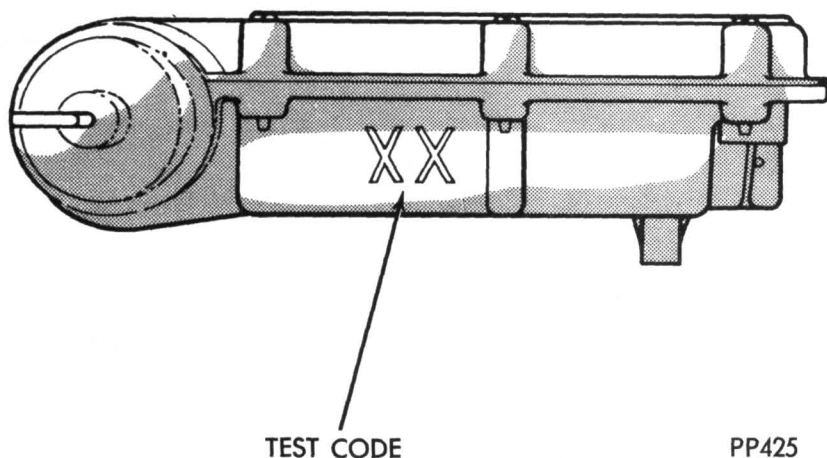
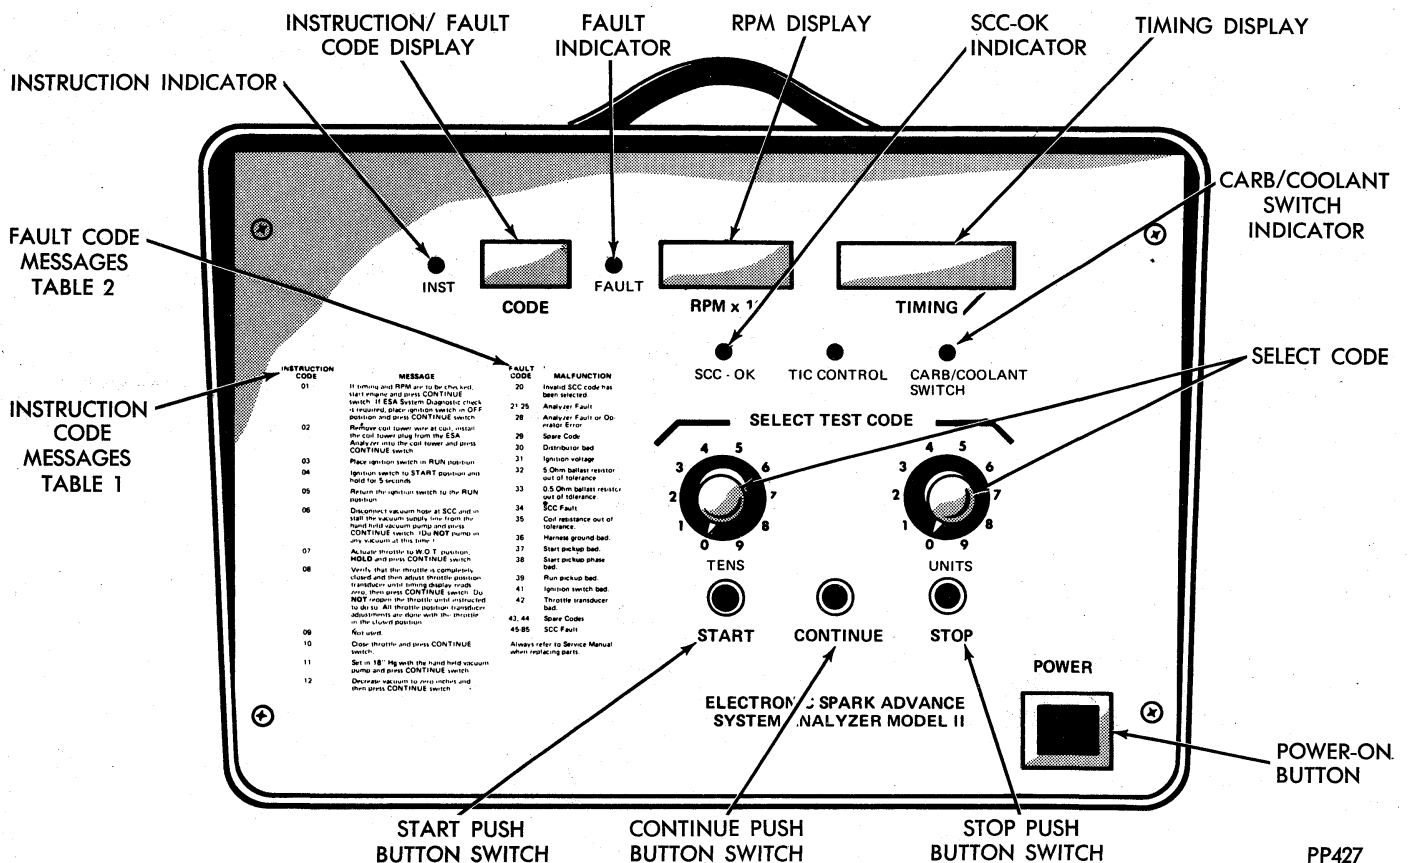

Fig. 2—Spark control computer test code (typical)
Fig. 7—Front Panel Controls and Indicators
on the side of the SCC (Fig. 2). The test code is the last two digits of the SCC part number. A selected test code allows the Analyzer to select the correct program for the vehicle being tested. The test begins when the START button is depressed. The Analyzer automatically performs a pre-set sequence of tests by receiving signals from the sensors and determines if they are operating properly. When an instruction code is displayed during the course of the tests, the mechanic is required to perform the function as defined on the front panel.
- (1) Refer to (Fig. 7) for all front panel controls and indicators.
- (2) Depress the POWER switch.
- (3) Set SELECT TEST CODE switches to test code stamped on side of SCC (Fig. 2).
- (4) Refer to CARB/COOLANT LAMP indications.
- (5) Depress the START switch.